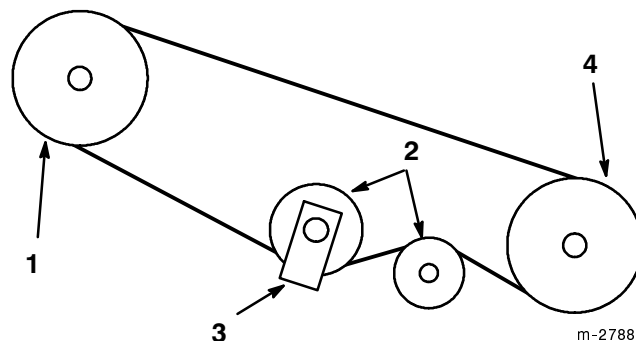

Figure 16
5. Rotate idler bracket to relax belt tension and slip belt off snowthrower pulley (Fig. 16),